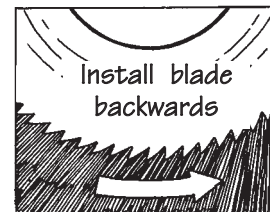

Figure 21.
- With a circular saw, install the fine-toothed (plywood) blade backwards on the saw for a smoother, cleaner cut, especially in cold weather. (Fig. 21.) Cut slowly. Do not attempt to cut materials other than vinyl with a reversed direction saw blade.